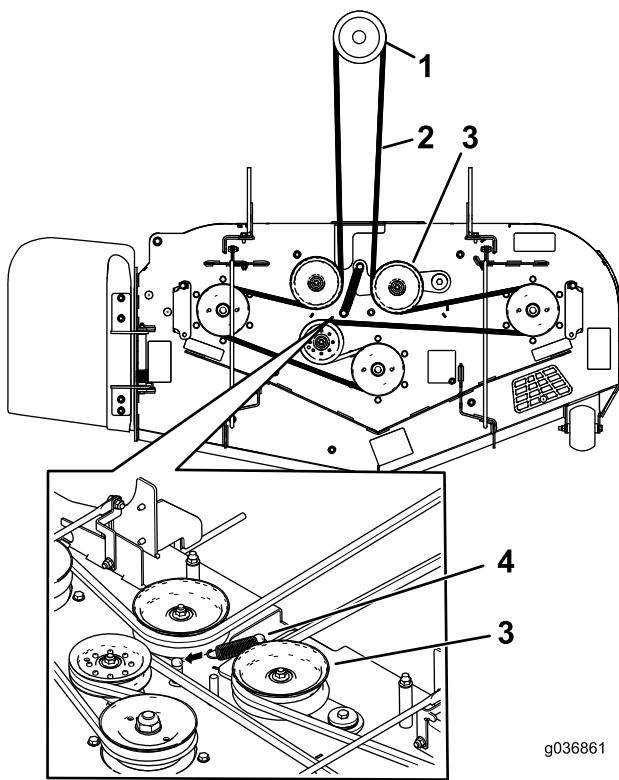
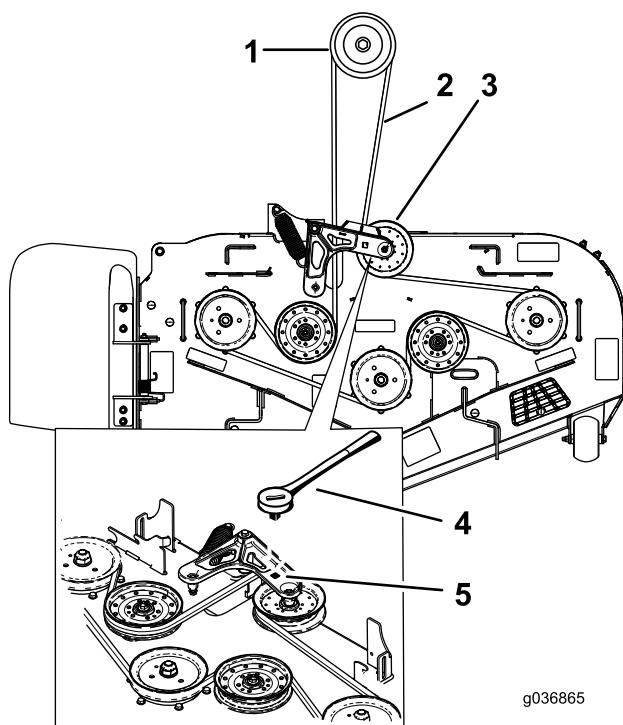

Figure 7
Figure 9
1. On the machine, remove the spring tension from the spring-loaded idler pulley; refer to Figure 7 or Figure 9.
Note: For blower Models 78404, 78405, and 78406, use a ratchet in the square hole in the idler arm to remove tension on the idler spring (Figure 9).
9. Install the mower deck belt around the spring-loaded idler pulley (Figure 7 or Figure 9).